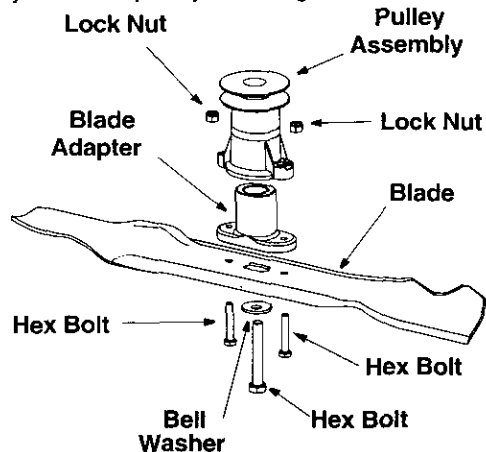

Figure 16
- Remove the bolt and the bell washer that hold the blade-pulley assembly to the engine crankshaft. See Figure 16. Remove the assembly from the crankshaft.
- Install the blade adapter on the pulley with the “star” away from the pulley. See Figure 16.